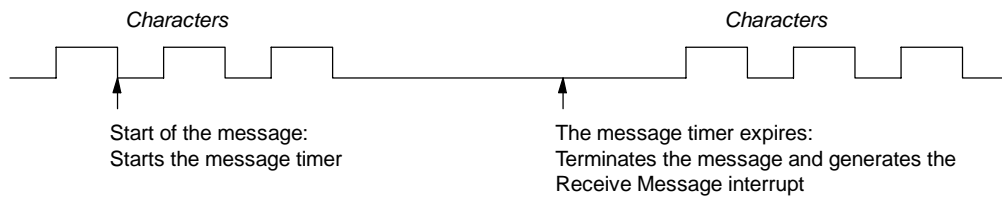

Figure 6-13 Using the Message Timer to Terminate the Receive Instruction
3. *Message timer:* The message timer terminates a message at a specified time after the start of the message. The message timer starts as soon as the start condition(s) for the receive message function have been met. The message timer expires when the number of milliseconds specified in SMW92 or SMW192 have passed. See Figure 6-13.